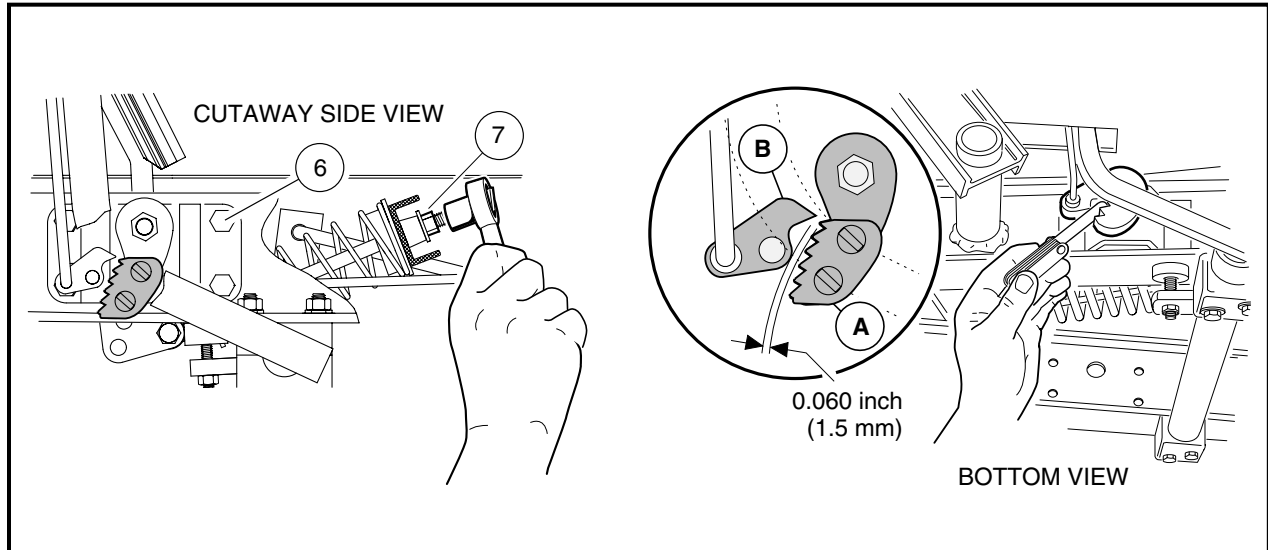

Figure 5-27 Park Brake Ratchet/Pawl Gap Adjustment
- 4.2. Adjust retaining nut (7) on spring support rod until there is a 0.060 inch (1.5 mm) gap between the pawl and the tips of the ratchet teeth. Use a feeler gauge to verify the gap (**Figure 5-27, Page 5-19**). The gap should be consistent through range of pawl movement. If the gap is not consistent, loosen the four bolts (6) securing the accelerator pivot rod supports and adjust the supports. If the gap becomes smaller as the park brake pedal is pressed, move the pivot rod supports slightly rearward until the gap is consistent. If the gap becomes larger as the park brake pedal is pressed, move the pivot rod supports slightly forward until gap is consistent.